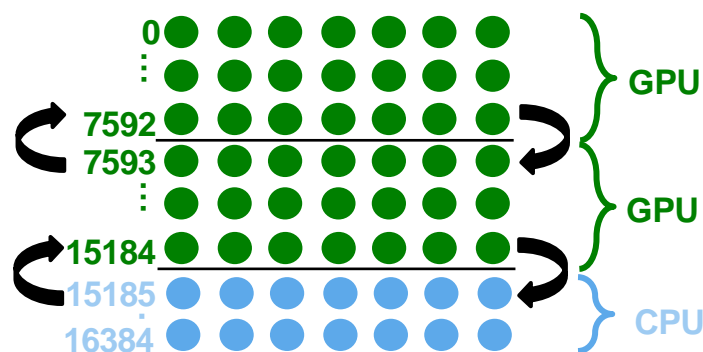

Figure 5: Work distribution between two GPUs and a 2-socket CPUs
To distribute the work, we follow the strategy described in section 2.6 *Heterogeneous Computing*. The only difference is that we now have three partitions: one on GPU 0, one on GPU 1 and one on the CPU (as shown in Figure 5).
- f) Before the swap loop, the halo data must be exchanged (see Figure 5) which can be done using the `update` directive. The first GPU needs to update its last matrix row, the second GPU needs to update its first and last row and the CPU needs to update its first row. Make sure that the data is synchronized.